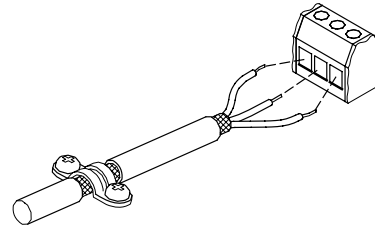

Fig. 12 Stripped cable with screen and wire connection
- The screens of the cables must be connected to frame at both ends with good frame connection. They must be as close as possible to the terminals, fig. 12.